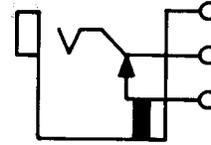

Fig. 4—218-Type Jack
2.04 218A, C, J, AM and CM: These single-mounted jacks (Fig. 4) are used with 1D, 1E, 153, 209, 241, 305, 324, 327, 328, 347, 373, and 464 plugs. These jacks are heavily insulated. They are arranged for use with the 347 and similar-type plugs. These jacks are mounted with the springs in a vertical plane.